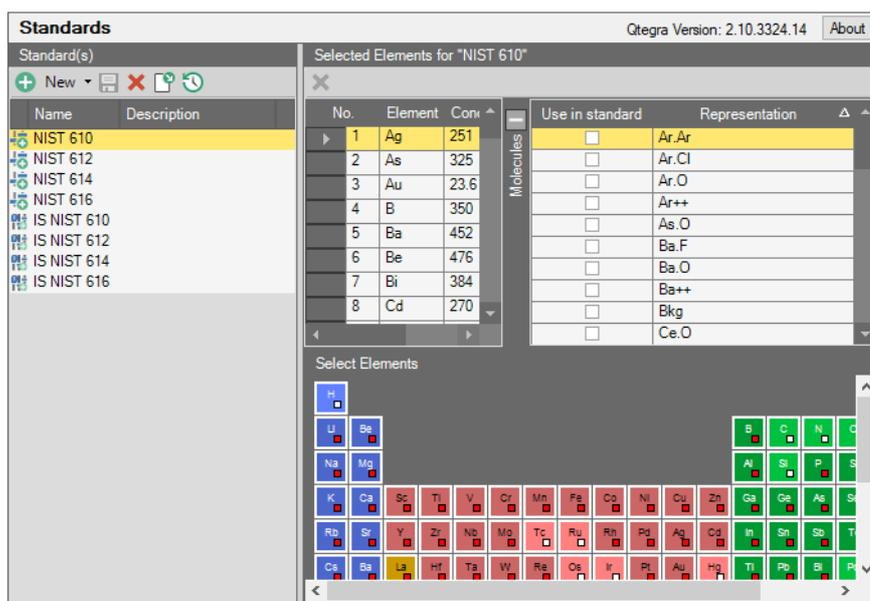

Figure 3-20. Layout of the Standards applet
The Standards applet (see Figure 3-20) shows a list of standards on the left. On the right pane, the associated elements and their concentration in the standard solution are displayed as well as the periodic table.
1. From **Configurator > Standards**, open the Standard(s) list and on the top right, click the **collapse** button to expand the Molecules list. The Molecules list opens, see Figure 3-20.